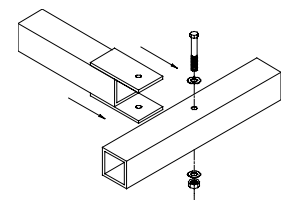

Figure : 4
- d. Any cross beams that span the enclosure but are unsupported by a column attach with flanges on the cross beam (See figure 4)